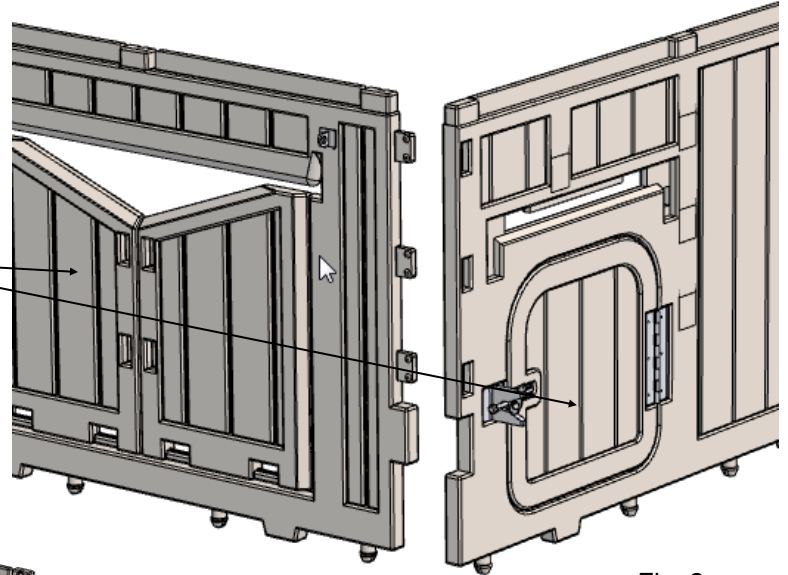

Fig. 2a
**Step 2:** Assemble the Front Wall to a Nest Side Wall by aligning, and then inserting the tabs on the Nest Side Wall into the slots of the Front Wall. (Fig.2a)